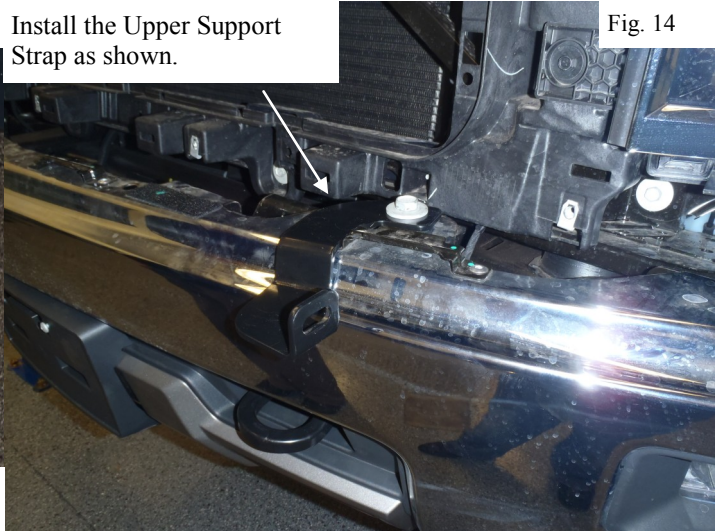

Fig. 14
11. Remove the upper factory bumper bolts and re-use them to install the Upper Support Straps. Adjust the Upper Support Straps so that they are approximately 20-5/8" from the center of the bumper then torque the factory bumper bolts to 50-55 ft-lbs. (Figures 14 & 15).